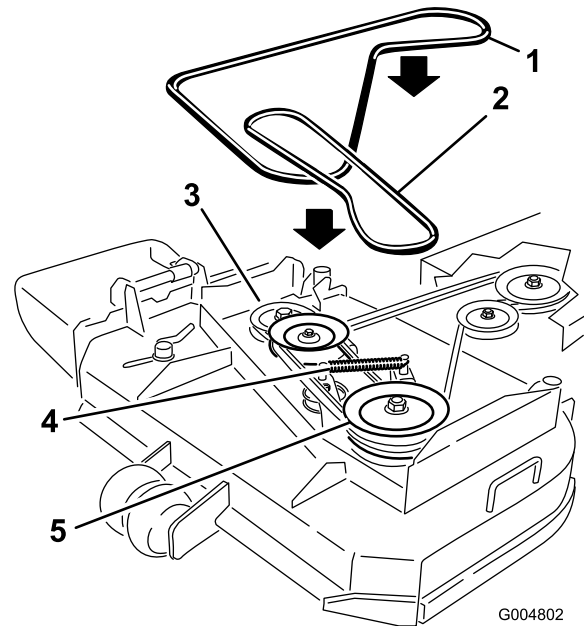

Figure 44
6. Disconnect the idler arm spring to relieve tension on the idler arm and idler pulley, then remove the worn mower belt (Figure 44).
7. Install the new mower belt around the 2 outside spindle pulleys, the idler pulley, and in the lower groove of the double-spindle pulley (Figure 44).
8. Connect the idler arm spring (Figure 44).
10. Adjust the belt guide an 3 mm (1/8 inch) from the belt (Figure 44).